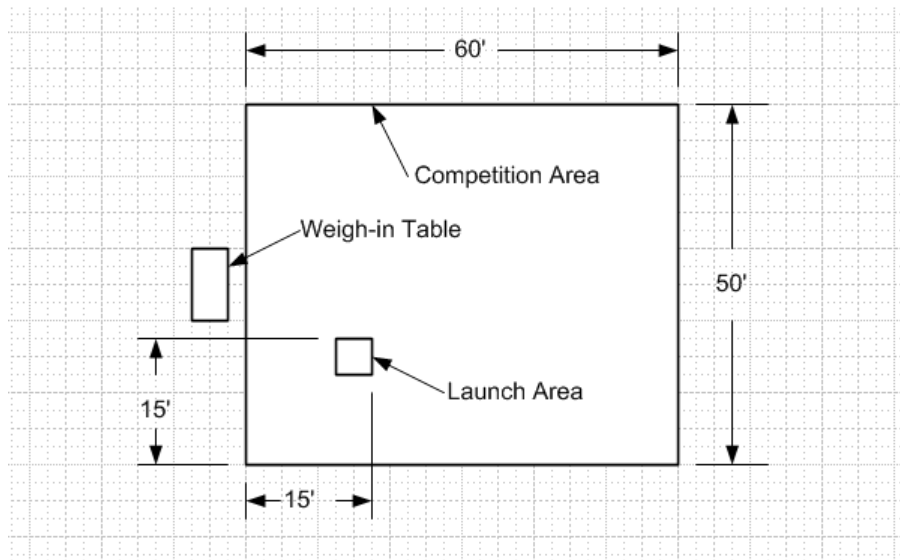

Figure 2 - Plan View of Competition Area
- The plane must be launched safely (without danger to anyone in the area) and must remain in the 60' by 50' competition area. (see figure 2).
The competition area is shown in figure 2. **Note:** airplanes need to remain within the airspace immediately above the competition area in order to be scored. (This should reduce the chance of flying into an unsuspecting crowd of people.)